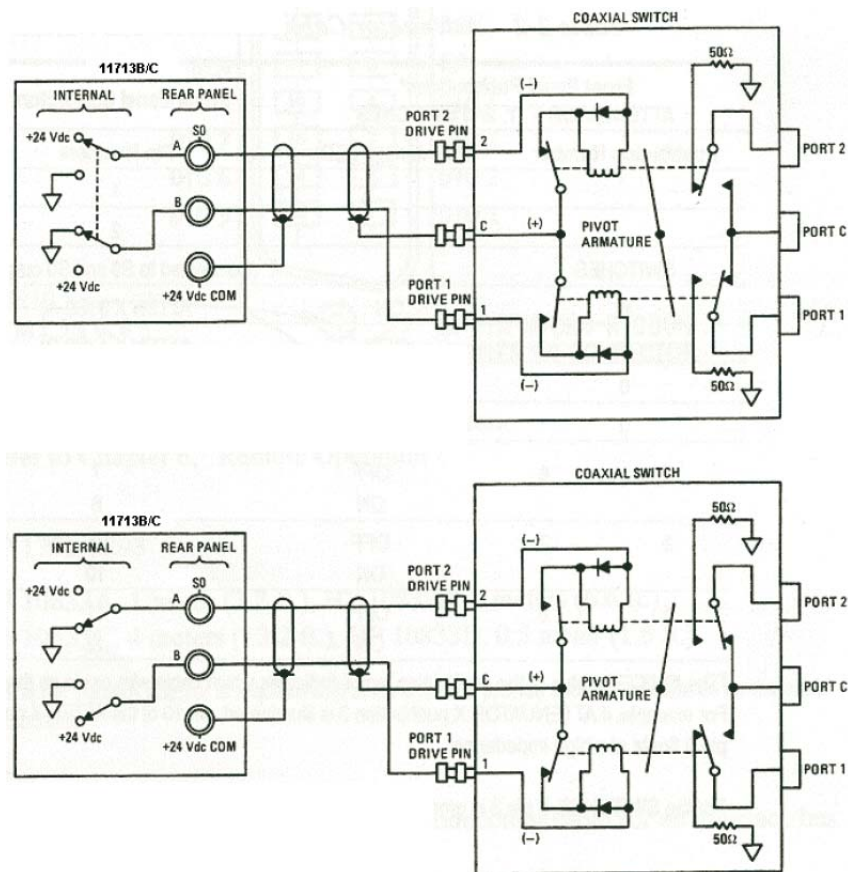

Figure 2-5 Typical connection for 8762 and 8765 series coaxial switches
- Figure 2-5 below shows the rear panel connections to S0 outputs and the corresponding switch positions reflected by pushbutton indicators.